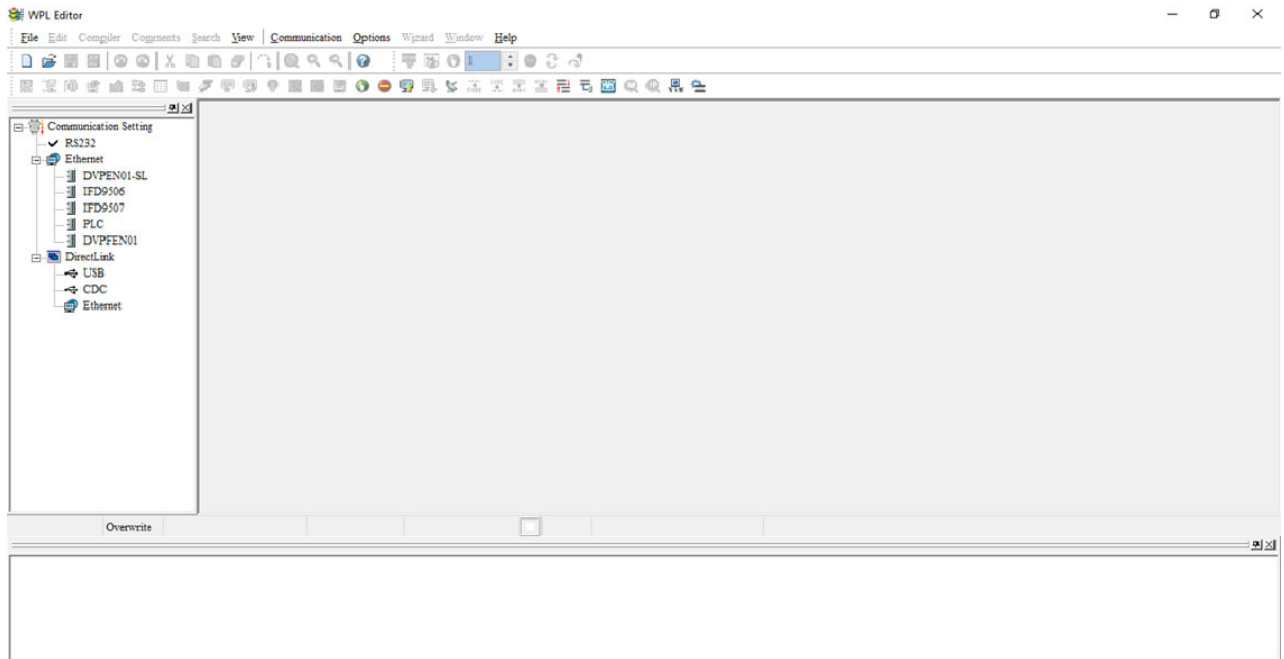

Figure 16-2
Step 2: The WPLSoft editing window appears (see figure 16-2 below). When running WPLSoft for the first time, before "New file" has been used, only the "File (F)," "Communications (C)," View (V)," "Options (O)," and "Help (H)" columns will appear on the function toolbar.